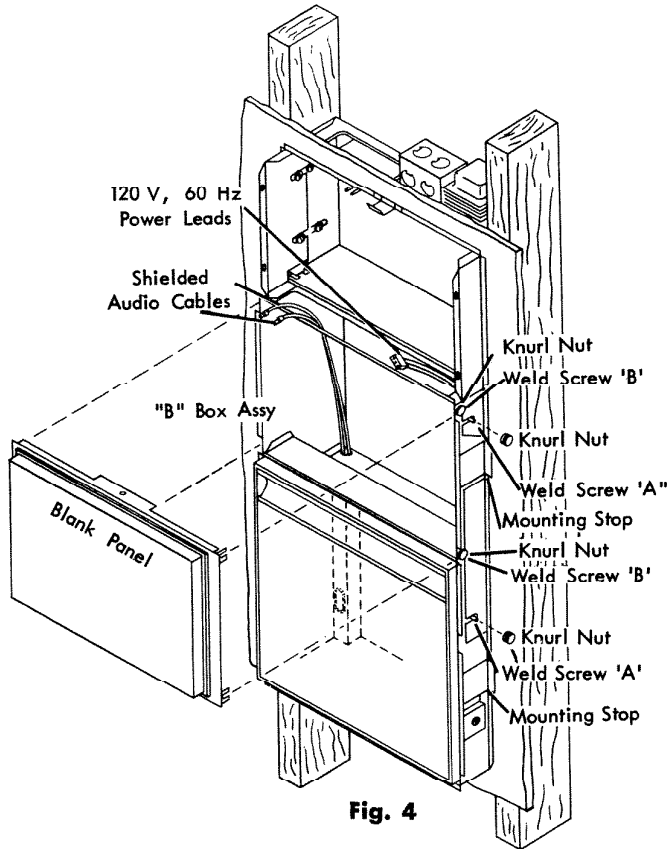

Fig. 4
NOTE: Fig. 4: The "B" Box Assembly includes the record player, and blank panel (2500-B) or, 8-Track Tape Player (2501-B) or, Cassette Tape Player/Recorder (2502-B).
6. Fig. 4: Loosen Knurl Nuts on Weld Screws 'B' and remove Blank Panel (or Panel and Tape Player) from "B" Box Assy. before installing the "B" Box in the "A" Frame.
7. Fig. 4: Position "B" Box Assy. in "A" Frame and align the two Weld Screws 'A' on each side of cabinet with the screw slots in the "B" Box Hanger Brackets.
8. Fig. 4: Start Knurl Nuts on each Weld Screw 'A' and slide "B" Box into wall opening until the mounting stops are against the "A" Frame Front Flange.
13. Fig. 4 (see note 6 above): Replace blank panel; 8-track player panel or panel and Cassette chassis as required. Secure in place by tightening knurl nuts on two weld screws "B" on each side of panel.